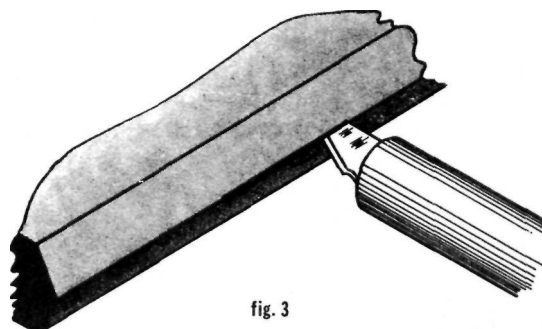

fig. 3
Step 2. Slit each edge where you want the-hinges to be inserted. Use a thin bladed modeling knife. Slit along the centerline. (Fig. 3)